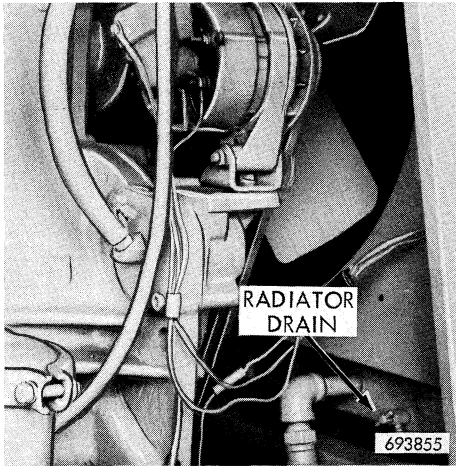

Figure 60
1. While the coolant is still hot, open the radiator drain valve and the engine block drain valve, Figure 60 and 61.